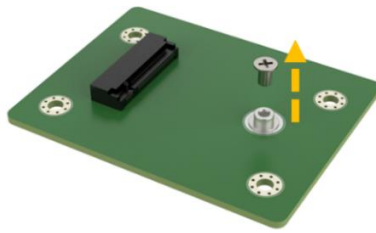

Figure 3-16: Remove the Retention Screw
Step 2: Remove the retention screw. Remove the retention screw for M.2 card installation as shown in **Figure 3-16**.